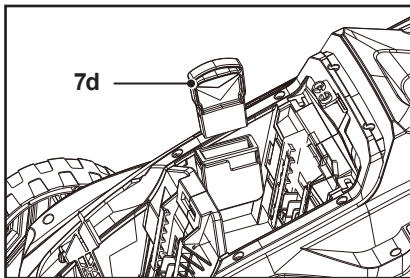
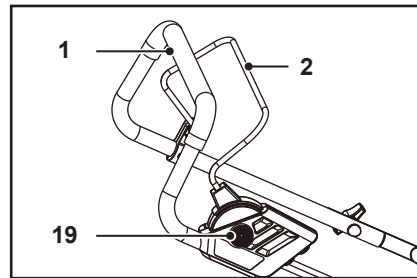

Fig. 13
Fig. 14
1. Attach the battery packs (21).
2. Insert the safety key (7d) into the slot fully (Fig. 13).
3. Stand behind the grip handle (1).
4. While holding the safety switch button (19) pressed, pull the start lever (2) towards the grip handle (1) (Fig. 14).
5. After the mower starts, release the safety switch button (19).
7. Release the start lever (2) to stop the mower.